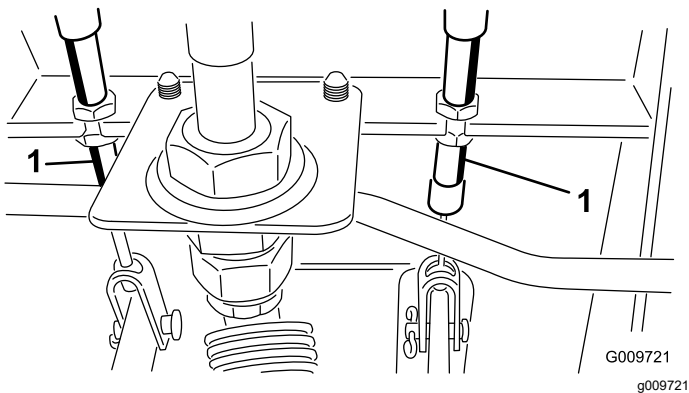

Figure 77
- A. Loosen the front nut on the threaded end of the brake cable (Figure 77).